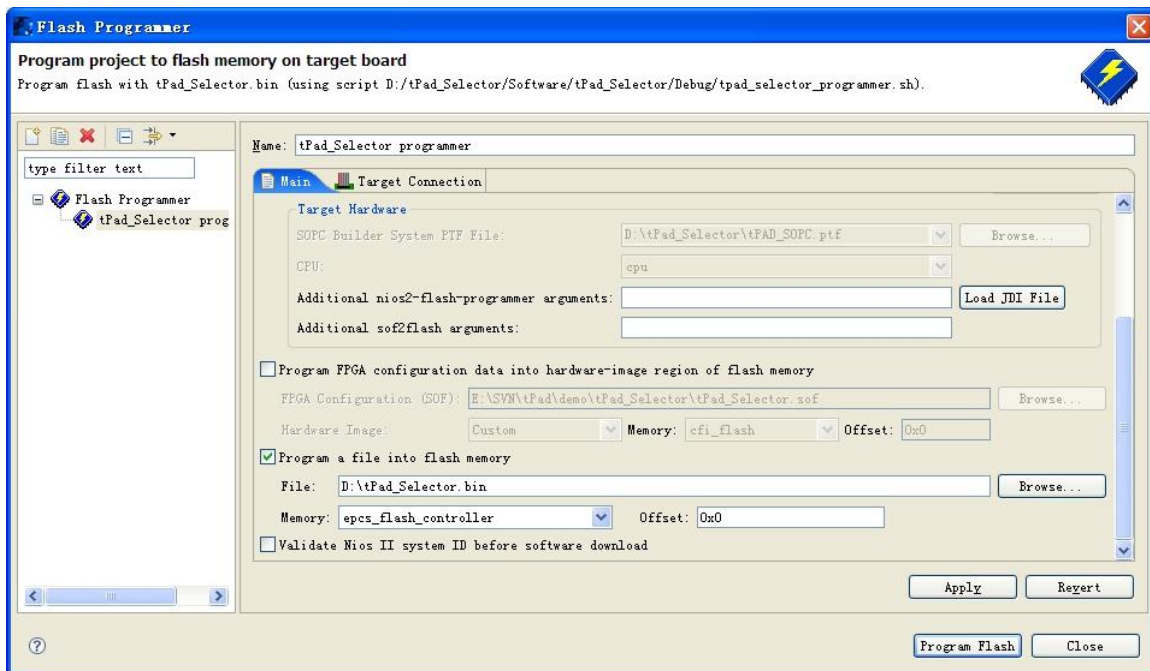

Figure 5-2 Programming Flash settings
- Choose Program a file into memory, choose your tPad\_Selector.bin file. See **Figure 5-2**